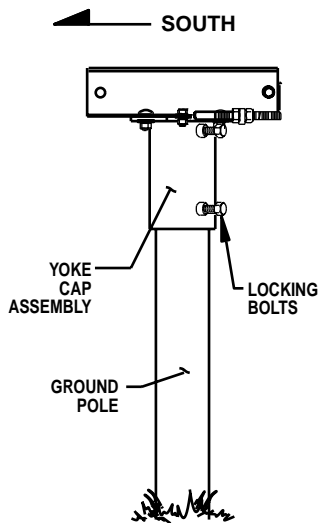

FIGURE 1.2
Secure azimuth adjusting bolt (23) to yoke cap assembly with M12 x 30mm hex bolt, lock washer and hex nut (4, 5 & 10). Point yoke cap assembly south and temporarily secure to ground pole with locking bolts (Refer to Fig. 1.2).